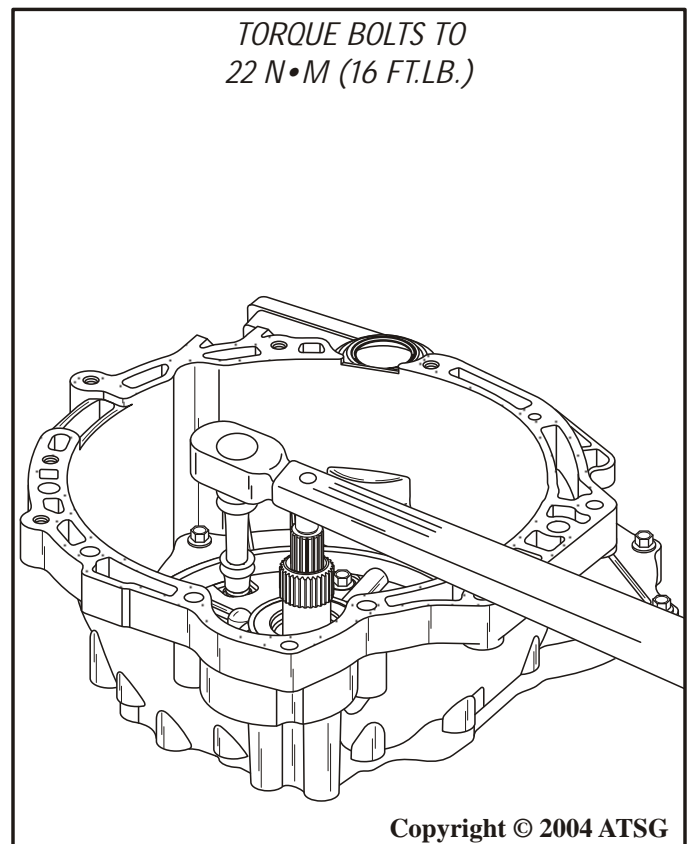

Figure 188
70. Torque the oil pump to case retaining bolts to 22 N•m (16 ft.lb.), as shown in Figure 188.